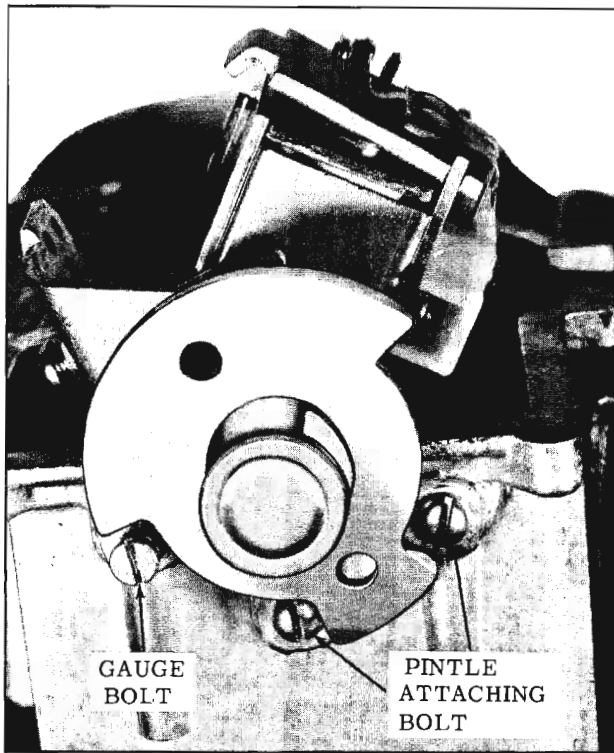

Fig. 13-31 Installing Pintle
14. Install the two pintle bolts, gauge bolt and lock washers to secure the pintle assembly to the housing. (Fig. 13-31)